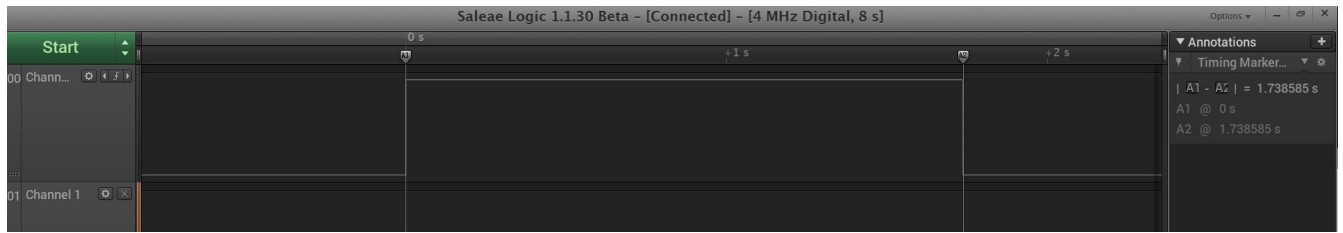

Figure 3-1 Logical capture result (complete preamble)
1. If the preamble is relatively complete and the number of preambles contained inside is greater than the configured `chirp_num`, GPIO11 will be pulled high for the duration of preamble+payload (the preamble is incomplete, so the overall high time of GPIO11 is shorter than the situation in Figure 3-1). At this time, the receiver can generate a correct `rxdone` result.